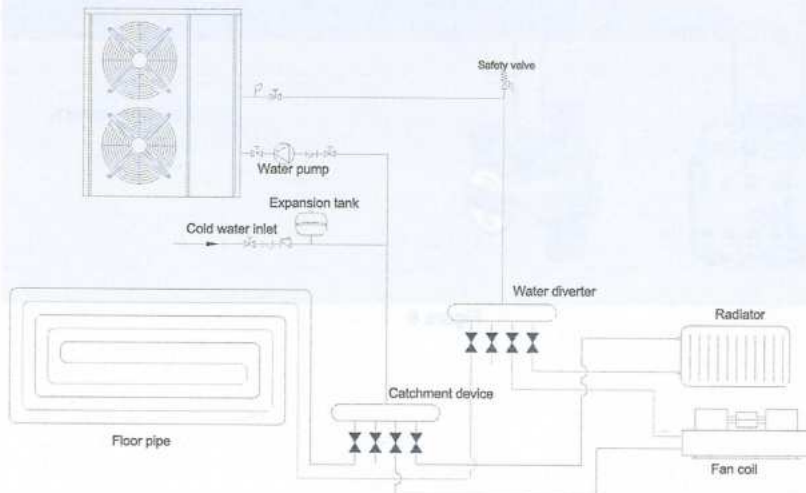

Figure 10
- 1) System installation diagram to see Figure 10.